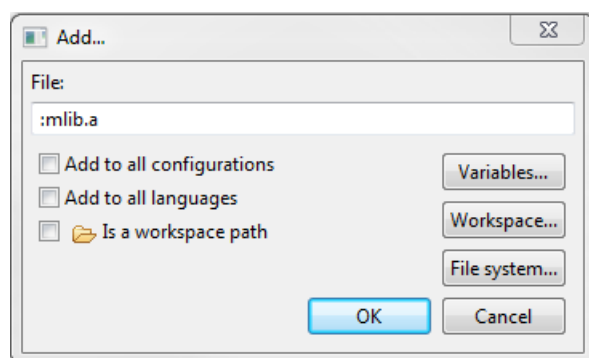

Figure 1-23. Library file inclusion
11. Type the following into the File text box (see Figure 1-23): :mlib.a